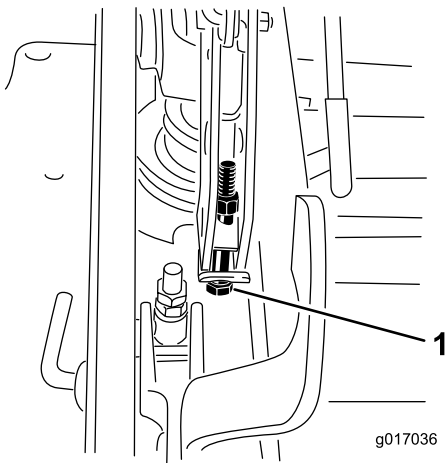

Figure 93
13. If the deck is too low, tighten the single-point-adjustment bolt by rotating it clockwise. If the deck is too high, loosen the single-point-adjustment bolt by rotating it counterclockwise (Figure 93).